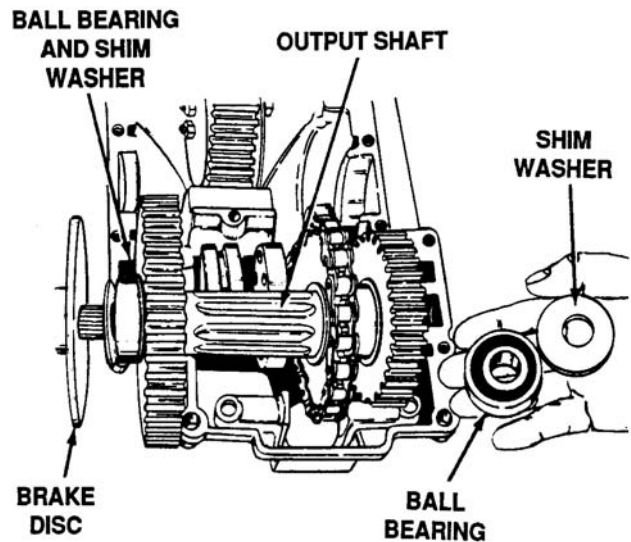

Figure 5-41. Removing Ball Bearings and Shim Washers
- Remove the ball bearings and shim washers from each end of output shaft. See Figure 5-41.